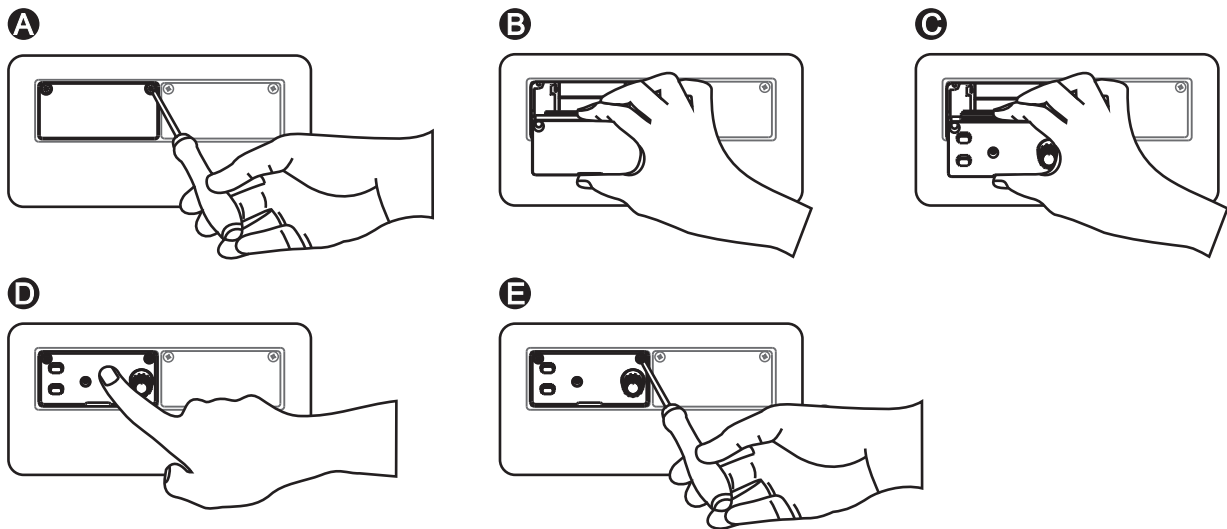

Fig. 9
1. Installation or replacement of wireless receiver modules. Fig. 9: